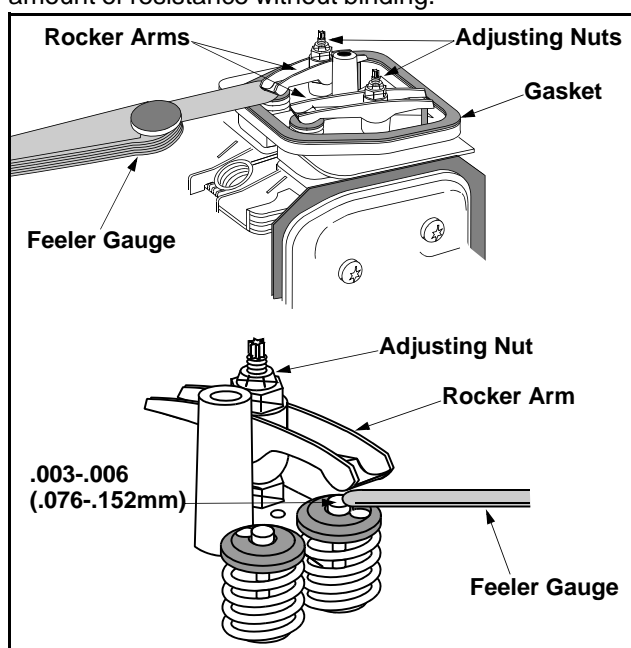

Figure 15
- Slide the feeler gauge between the rocker arm and the valve return spring. Measure the clearance between the valve stem and rocker arm. Do both intake and exhaust valves. See Figure 15.